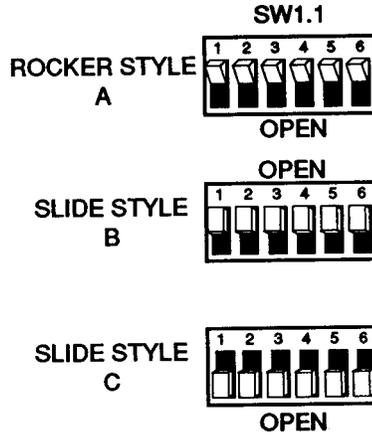

Figure A-21. Settings for SW1.1
There are three versions of the IVP4 board that differ only in the type of switches used. To properly set the switches, you must identify which configuration is used on the board. See Figures A-21 and A-22.
The first switch (SW1.1) controls the line impedance. The settings should all be set to the "OPEN" position initially (as shown in Figure A-21 for each configuration). If problems are encountered with TouchTone recognition on any channel, change the switch for the affected channel on the first bank (SW1.1) to the opposite (closed) position.
1. Set the switches for each board according to its configuration and board number. See Figures A-21 and A-22.